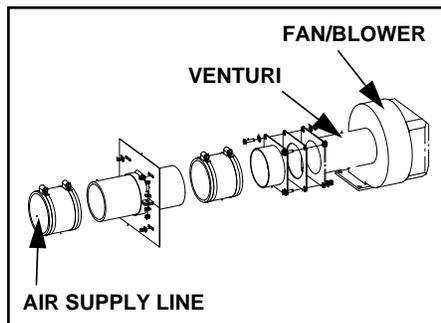

Figure 3-9. Optional Direct Vent Combustion Kit
4. Refer to **Figure 3-2** and **Figure 3-4** for suggested piping of direct vent combustion installations. **Figure 3-9** shows the optional direct vent combustion kit providing easy adaptation of the contractor supplied air duct to boiler connection. Refer to Table 3-2 for sizing the direct vent combustion air pipe.